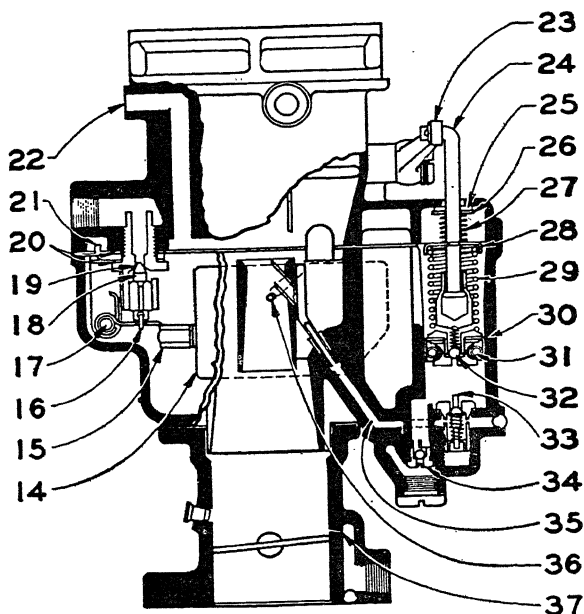

Fig. 107. Buick-Stromberg Carburetor Showing Accelerator Well and Pump
**Main Metering System.** With the engine turned over by the starting motor, fuel is forced through the fuel line from the fuel pump into the carburetor bowl. The float needle valve 18, Fig. 107,
**Maximum Power.** For a part throttle opening, fuel is supplied through the main metering jet to approximately 75 miles per hour, at which point the economizer valve 33, Fig. 107, is forced down by the accelerating pump piston allowing fuel to flow through the economizer valve and discharging through the pump discharge nozzle 36. Fuel is supplied continuously through these passages
**Acceleration.** Acceleration requires additional power and this is secured only by burning additional fuel. Thus, on acceleration it is necessary to supply momentarily an extra amount of fuel as the throttle is opened. The action of the accelerator pump is one of drawing in fuel on the upstroke of the pump piston 30, Fig. 107. Fuel enters the piston chamber through the inlet valve 34. On the downstroke of the pump piston, the compression closes the check valve and forces open economizer valve 33. This allows the fuel to be discharged through the pump discharge nozzle 36 into each of the carburetor barrels. Part open throttle allows only a small amount of fuel to be discharged, while the wide open throttle allows a greater amount of fuel to be discharged.